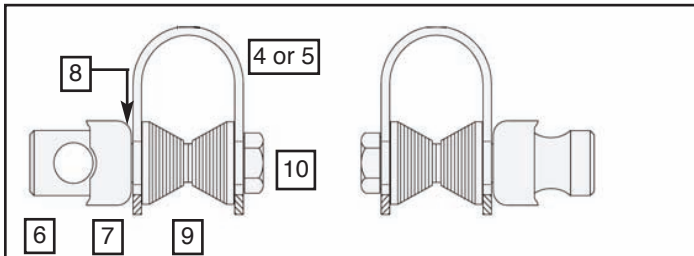

Figure 2a
4. Put an Indented Cup Spacer (7) and an Internal Lock Washer (8) on each of the Eyebolts (6). Slip Eyebolts through the U-Clamps. At the same time, insert two Bevel Washers (9) (bevels facing each other) inside each U-Clamp so that the Eyebolt passes through them. **Figure 2a and 2b**
5. Align the Cup Spacer (7) indentations with the “eyes” of the Eyebolts (6). With the U-Clamps aligned evenly on each side of the handlebars, slide the Uprights of the assembled screen through the Eyebolts. **Figure 2a and 2b**
6. Carefully align the screen so that it sits slightly above and not directly on the headlight. Now **loosely install** WhizLok Nuts (10) onto the threaded portion of the Eyebolts. (**9/16” Box Wrench**)